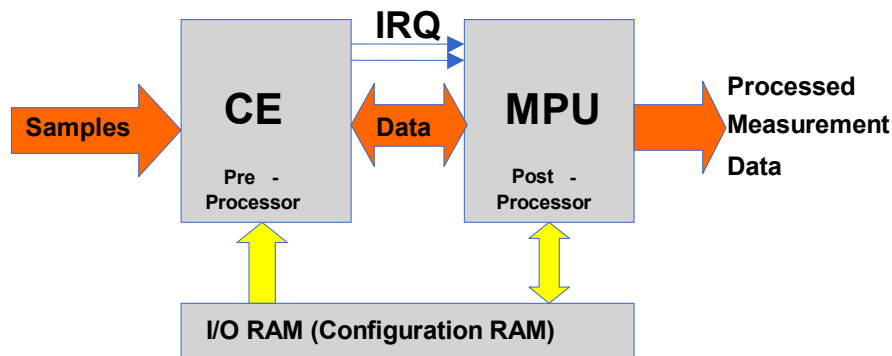

Figure 5: MPU/CE Data Flow
The data flow between CE and MPU is shown in Figure 5. In a typical application, the 32-bit compute engine (CE) sequentially processes the samples from the voltage inputs on pins A0, A1, A2, and A3, performing calculations to measure active power (Wh), reactive power (VARh),  $A^2h$ , and  $V^2h$  for four-quadrant measurements. These measurements are then accessed by the MPU, processed further and output using the peripheral devices available to the MPU.